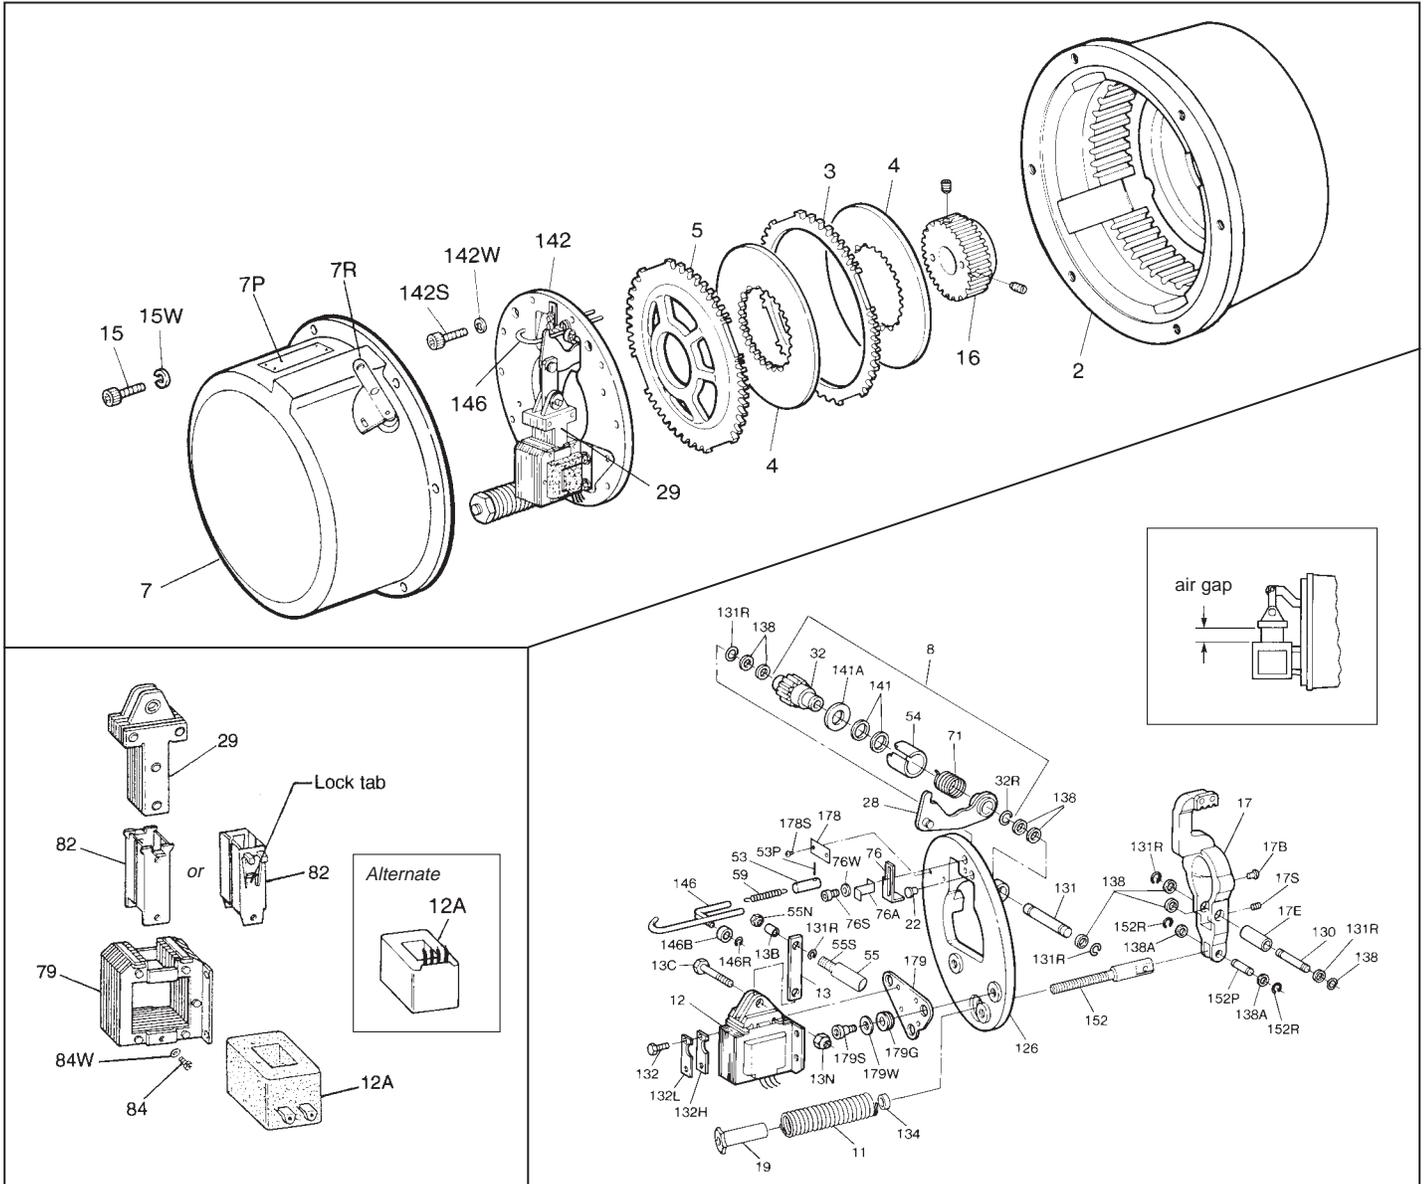

Figure 1
(See Figure 1)
1. Unscrew manual release knob (148), housing screws (15) and washers (15W) and remove housing.
3. Remove solenoid link screw (13C) and lift plunger (29) from frame (79).
4. For metallic plunger guides (82) remove plunger guide screws (84) and lock washers (84W). Remove both plunger guides (82) by prying up on the flanges. Discard plunger guides.
- a) To remove non-metallic plunger guides (82) remove screws (84) and lock washers (84W). Insert shim stock or other thin gauge material at top center of coil between coil and solenoid frame. Push to release lock tab while lifting up on plunger guide. Repeat for other plunger guide.
5. Slide coil (12A) out from solenoid frame (79) in the direction of the coil leads or terminals. If necessary, tap coil lightly with a soft hammer. If solenoid coil had burned out, be sure to remove all foreign material from the solenoid plunger (29) and solenoid frame.
solenoid. If solenoid actuated switch or DC coil is used, install coil with lead wires upward toward inboard side of solenoid. Assemble new metallic plunger guides (82), plunger guide screws (84) and lock washers (84W) if used. See Figure 1.
a) Assemble new non-metallic plunger guides (82) by inserting into position and pushing down until lock tab snaps under top bar of solenoid frame. On coil (12A) with terminals, check that lock tab face is flush with inside surface of guide. If not, file chamfer [about 1/16" (1.5 mm) by 45°] on coil at lock tab area. Install plunger guide screws (84) and lock washers (84W) if used.
The solenoid is factory set with a 1-3/8" (35 mm) to 1-7/16" (37 mm) air gap, and requires no resetting, even when changing friction discs. The air gap is determined by the position of the wrap spring stop (76). The air gap is measured between mating surfaces of plunger and solenoid frame. See Figure 1.